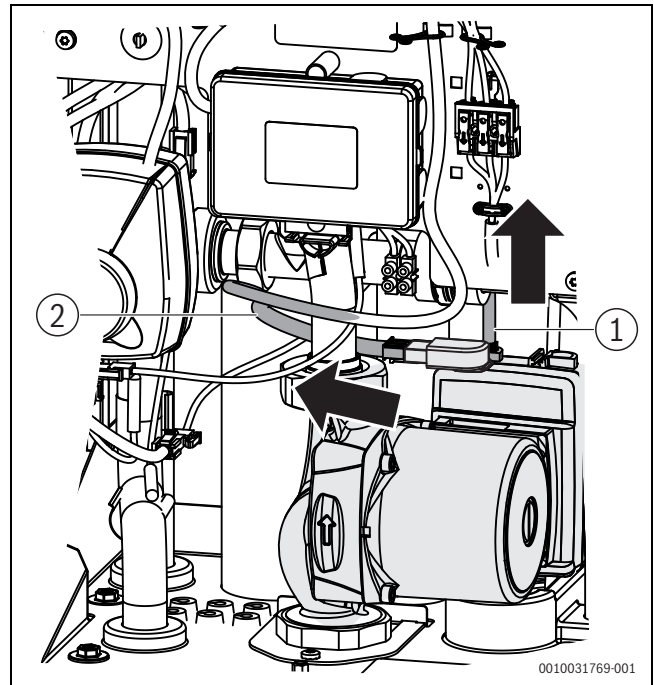

Fig. 38 Unplug the plug
- ▶ Pull off 2 plugs (power supply and signal) on the pump (→ Fig. 38).